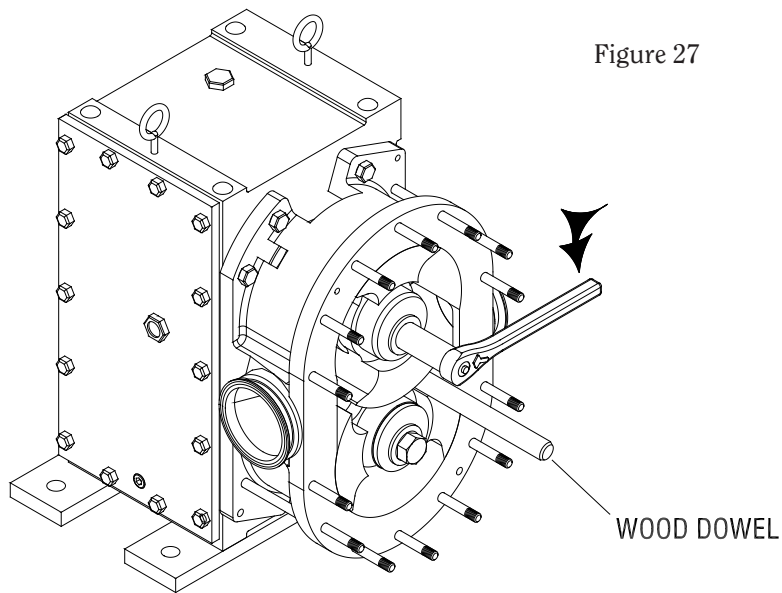

Figure 27
- i) Place the wooden dowel between the rotors as shown in Figure 27.